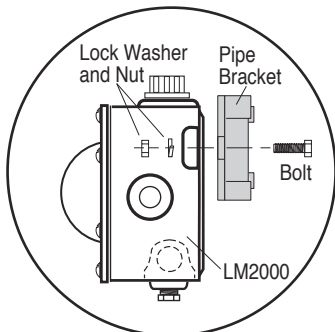

Figure 1A
2. Install the pipe bracket to the LM2000 using two 1/4-20 UNC x 1 inch bolts, nuts and lock washers supplied. See Figure 1A.